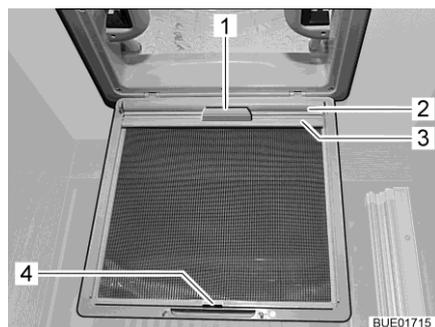

Fig. 92 Blind (skylight)
- Using the handle (Fig. 92,1), pull out the blind (Fig. 92,2) and hook the retainer (Fig. 92,3) into the hook (Fig. 92,4) on the insect screen.
- Release the retainer (Fig. 92,3) from the hook (Fig. 92,4) and, using the handle (Fig. 92,1), slowly return the blind (Fig. 92,2).